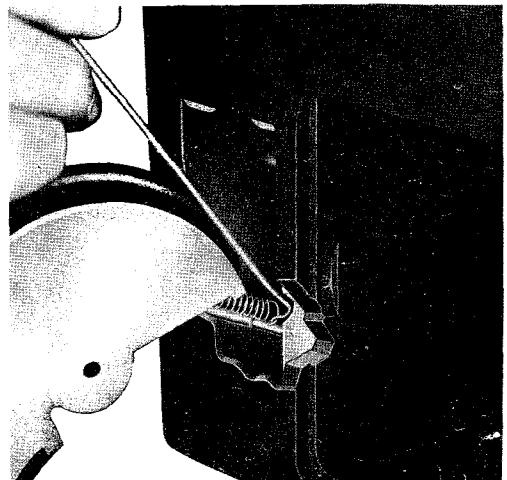
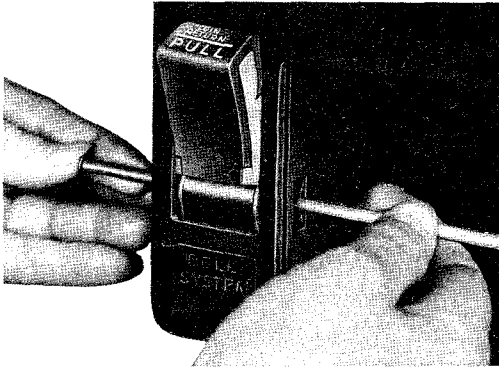

Fig. 48—Attaching Springs in Return Chute
Fig. 49—Inserting Shaft in Housing
- (3) Use TP-75503 spring hook to engage springs on crossbar in coin chute (Fig. 48).
- (4) Insert and hold pull bucket in normal position.
- (5) Use orange stick or equivalent to line up holes in pull bucket and housing.
- (6) Insert P-27E462 stainless steel shaft in housing and force fit using hammer and drive punch (Fig. 49).